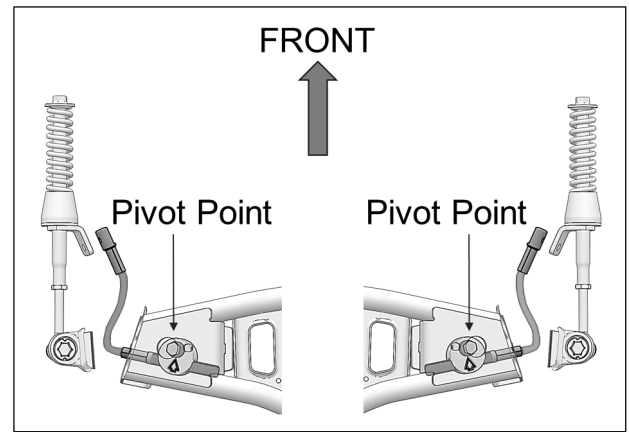

Fig. 18
10. Make sure aluminum disk pivot point is installed in front of steering limiter cable. See Fig. 18